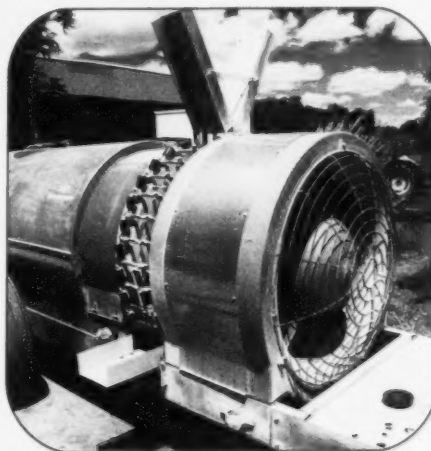

Figure 3. Airblast sprayer with deflectors.
- using deflectors to channel air into, not over or under, the target (see Figure 3)